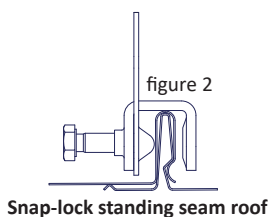
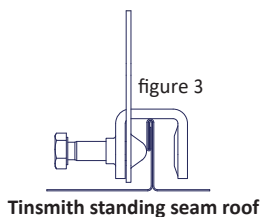
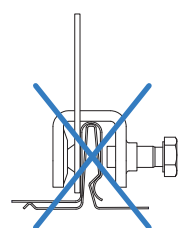

figure 2
figure 3
figure 7
- Install the central fastener to the roof seam with Tightening clamps. The tightening clamps are inserted into the holes in the central fastener. The central fastener is mounted to the snap-lock standing seam roofs on the full side of the seam (Figure 2) and to the tinsmith standing seam roofs on the folded side of the seam (figure 3). **NB! The bolt of tightening clamp must always be against the fastener, NOT against the seam (figure 7).**